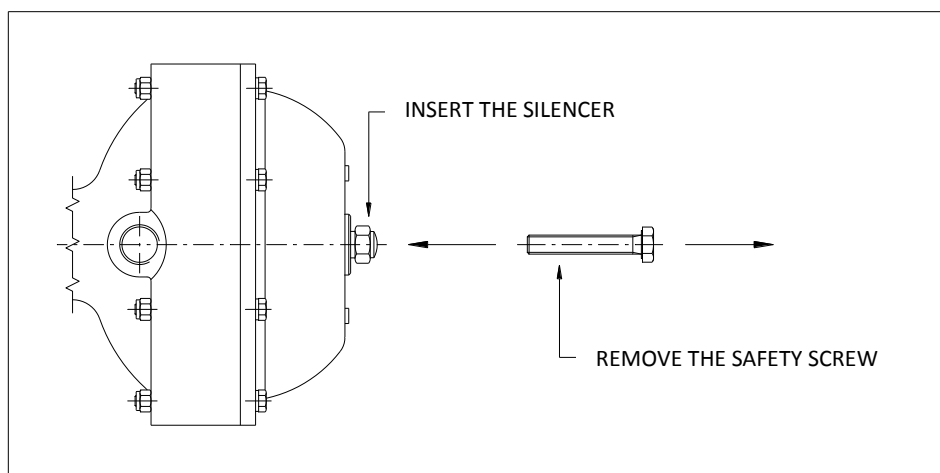

Figure 4
- Power up the thruster and substitute the safety screw TE M10 with the silencer C61126 (Figure 4). The 1N thruster does not have a silencer, therefore substitute the screw TE with the adjusting grub screw C61587 complete with nut C61598.